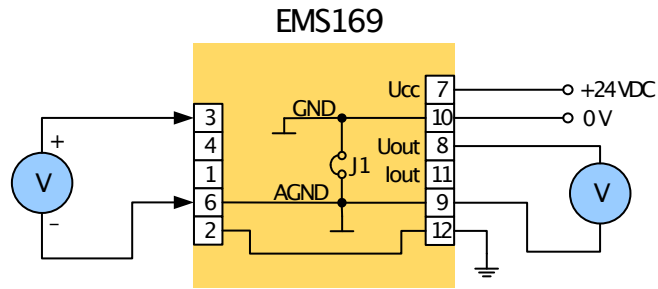

Fig. 8. Excitation sensor voltage measuring (without sensor)
3. **Sensor excitation test 1 (without sensor)**. The excitation voltage of the sensor is measured at the clamps 3 and 6, see figure 8. It should be $+ 7.0 \text{ V} \pm 5 \text{ mV}$.